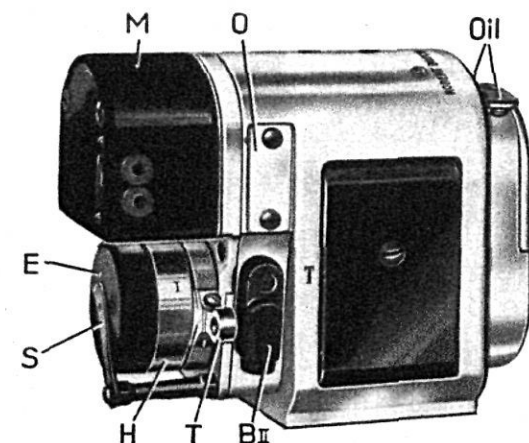
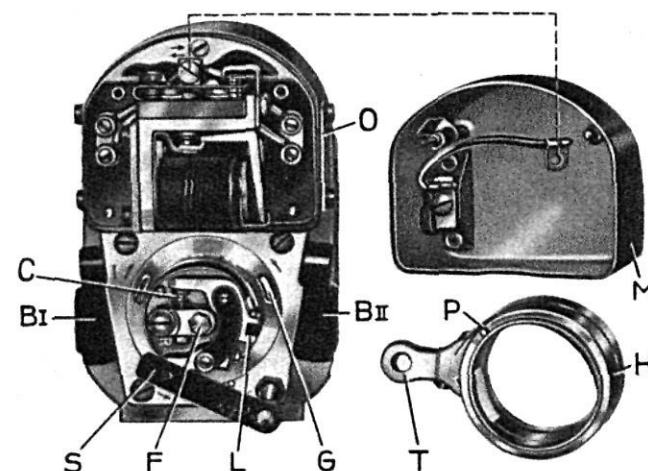

Fig. 1. Magneto-Generator DVAR viewed from interrupter end.
Fig. 2. Magneto-Generator DVAR (Interrupter end view) with dust cover and interrupter housing removed.
The generator, which is a two-pole shunt-wound 6 volt machine with a rated output of 30 watts, is built into the upper part of the unit. (See Fig. 1). Its outstanding feature is a voltage regulator and cutout relay which holds the voltage within defined limits regardless of the speed of the engine. The use of this voltage regulator enables the generator to supply a high charging current, when the battery is empty. A discharged battery is thus brought up to par in a short time. On the other hand, when the battery is fully charged, a low current is furnished by the generator which prevents overcharging and means particularly long life of the battery. Since with this generator the voltage cannot exceed a certain amount, the lamps always burn with a uniform brightness, which insures long life of the filaments. Even if the battery terminals become corroded or the battery disconnected, the electrical system can still operate without burning out the lamps.
The voltage regulator is mounted dust and water-proof under a metal cap M (Fig. 1) on the commutator end of the generator.
tween the terminal 2 of the interrupter end cap E (Fig. 1) and the engine frame. When the switch is closed, ignition cannot occur.
**Interrupter.** Remove the interrupter end cap E (Fig. 1) and inspect the condition and adjustment of the contacts C (Fig. 2). The gap
If the contacts are dirty, they must be cleaned with a soft brush dipped in gasoline. Uneven or pitted contacts must be flattened with a small file, but emery paper must not be used for this purpose. The contacts are made accessible by removing the interrupter housing H and can be opened by depressing the interrupter lever L (Fig. 2).
The interrupter can be removed from the magneto armature for replacement of parts by unscrewing the interrupter fastening screw F located in the center. When replacing, care must be taken to put back the interrupter into its proper position as indicated by key and keyway. When replacing the interrupter housing H, be sure to engage the interrupter housing stop pin P in the groove G which is marked by an arrow showing the direction of the interrupter rotation. This groove G is on the upper right when facing the unit from the interrupter side. (See Fig. 2).
**Gearing.** The gearing of the magneto-generator must be lubricated with heavy motor oil every 1000 to 1500 miles. Two oil cups are provided for this purpose on top of the gear housing on the drive end of the magneto-generator. See the arrow in Fig. 1. In order to make the oil flow more easily it is advisable to heat it a little. Sufficient oil must be applied to saturate the felt wick, and the gear housing, which, of course, takes some time. For very cold weather conditions, Robert Bosch Magneto Oil US506 should be used.
When attaching the high tension cables, the spark plug of cylinder No. I must be connected to the collector brush holder B1 and the cable leading to the spark plug of cylinder No. II must be attached to collector brush holder B11 as shown in Fig. 2.
If the engine fails to start, it is advisable to check the ignition system. Disconnect the cable which leads from the magneto to the ignition switch by removing the interrupter end cap E (Fig. 1). If this remedies the trouble, the switch cable is grounded, either by damaged insulation or by one of its terminals touching a grounded part of the engine.